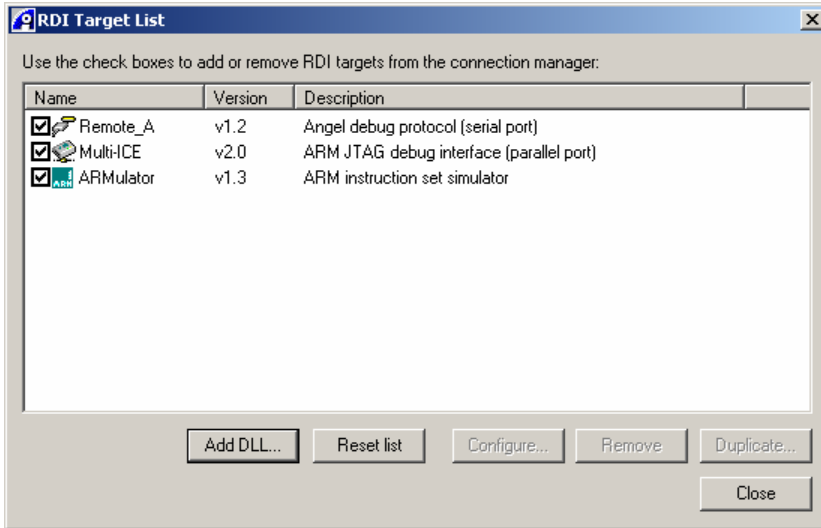

FIGURE 5 The RDI Target List dialog box.
3. The RDI Target List dialog box appears. Press the Add DLL button (Figure 5) and browse for the driver file SigJdsDI.dll found in typical installations in the \Signum\RDI folder.